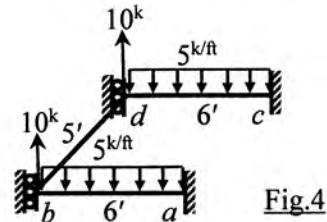

Fig.4
4. For the grid loaded as shown in Fig.4, use the stiffness method to calculate the vertical deflection and rotations [Given: $EI = 40 \times 10^3 \text{ k-ft}^2$, $GJ = 30 \times 10^3 \text{ k-ft}^2$].